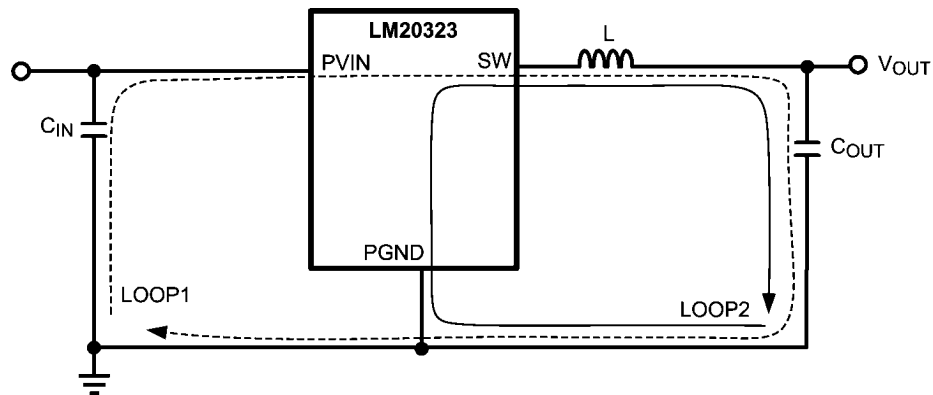

FIGURE 11. Schematic of LM20323 Highlighting Layout Sensitive Nodes
1. Minimize area of switched current loops. In a buck regulator there are two loops where currents are switched at high slew rates. The first loop starts from the input capacitor, to the regulator VIN pin, to the regulator SW pin, to the inductor then out to the output capacitor and load. The second loop starts from the output capacitor ground, to the regulator GND pins, to the inductor and then out to the load (see *Figure 11*). To minimize both loop areas the input capacitor should be placed as close as possible to the VIN pin. Grounding for both the